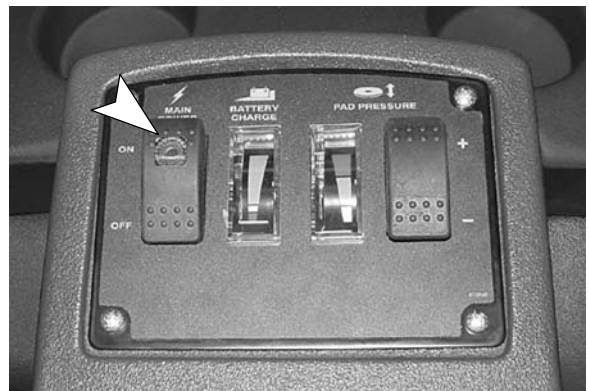

FIG. 8
1. Turn key on, if equipped, then turn the main power to the ON position (Figure 8).